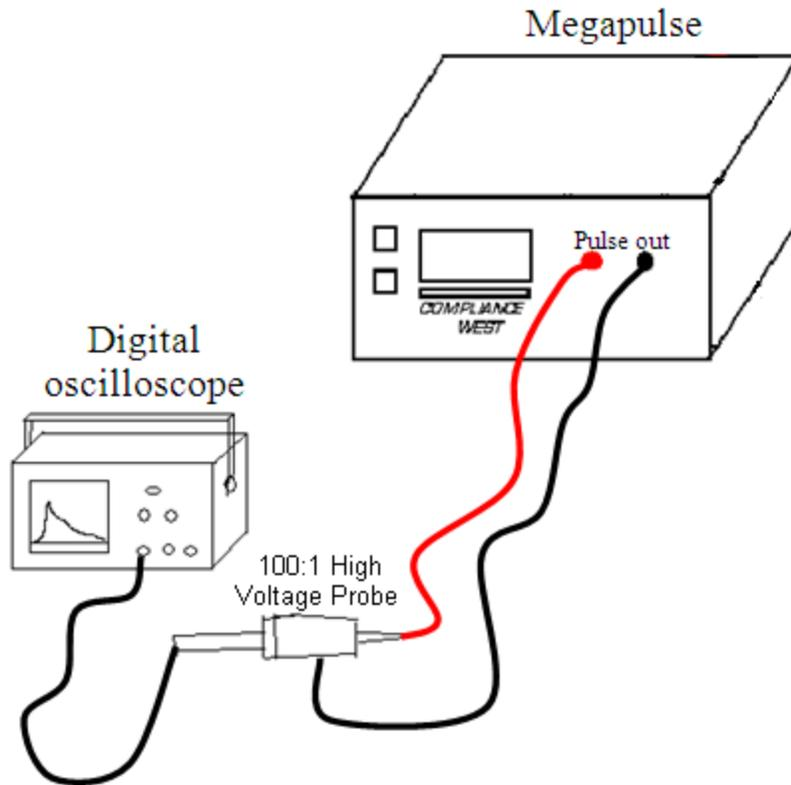

Figure 3. Waveform Measurement Setup
3. Connect the ends of the test leads to an appropriate measuring instrument (typically an oscilloscope with a high-voltage probe). See Figure 3 as an example.